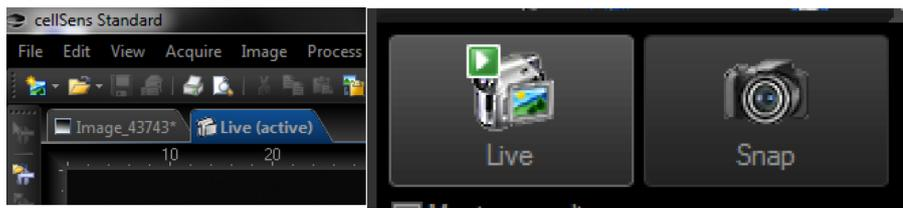

Figure 17. Navigation between the pictures
- You can navigate between the pictures you took by clicking on the tabs above the pictures (Figure 17).